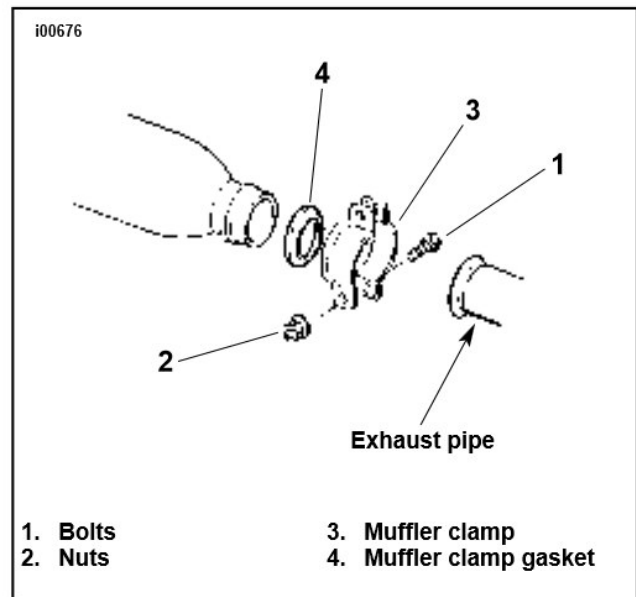

Figure 1. Front Muffler Clamp
2. See Figure 1. Remove bolts (1), nuts (2) and stock muffler clamp (3). Retain all items for mounting new muffler.
4. Slide stock muffler to rear and remove. Remove muffler clamp gasket (item 4, Figure 1) and retain for use in new muffler installation. If gasket is damaged, purchase Part No. 65721-85 from your Harley-Davidson dealer.
6. See Figure 1. Place muffler clamp gasket (4) on inlet end of muffler and slide muffler onto exhaust pipe.
10. See Figure 1. Tighten clamp bolts (1) to 10 ft-lbs (14 Nm).